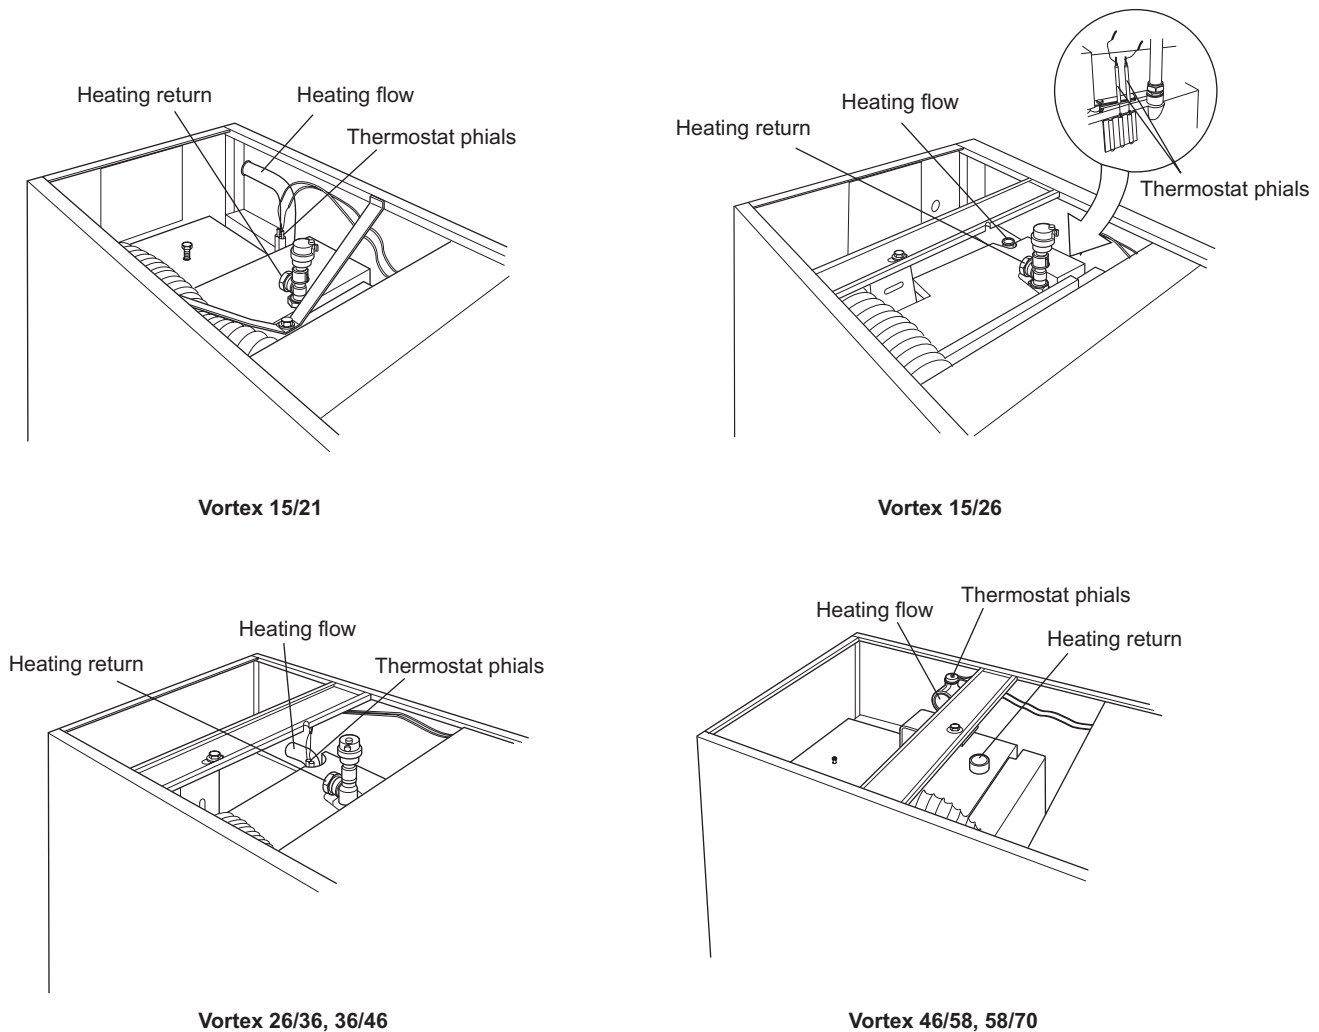

Fig. 12 - Water connections and thermostat phial positions
4.11 Water connections - all models See Fig. 12